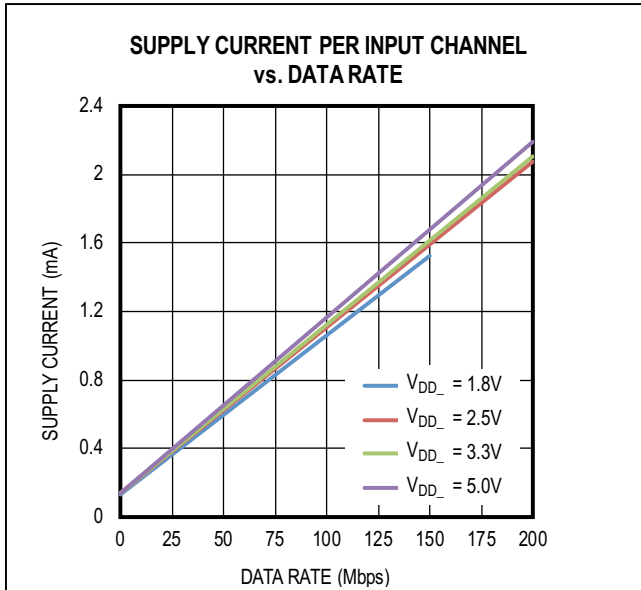
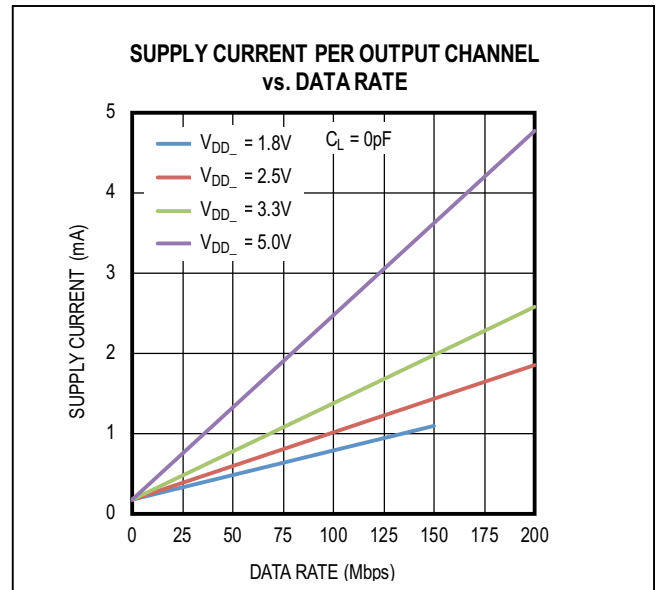

Figure 7. Supply Current Per Input Channel
Figure 8. Supply Current Per Output Channel
The required current for a given supply ( $V_{DDA}$  or  $V_{DDB}$ ) can be estimated by summing the current required for each channel. The supply current for a channel depends on whether the channel is an input or an output, the channel's data rate, and the capacitive or resistive load if it is an output. The typical current for an input or output at any data rate can be estimated from the graphs in Figure 7 and Figure 8. Please note the data in Figure 7 and Figure 8 are extrapolated from the supply current measurements in a typical operating condition.
The total current for a single channel is the sum of the "no load" current (shown in Figure 7 and Figure 8), which is a function of Voltage and Data Rate, and the "load current", which depends on the type of load. Current into a capacitive load is a function of the load capacitance, the switching frequency, and the supply voltage.
- ISDO operating at 3.3V and 10Mbps, consuming 0.24mA, estimated from Figure 7.
- $\overline{FAULT}$  operating at 3.3V and DC, consuming 0.14mA, estimated from Figure 7.
- OAUX operating at 3.3V and 1Mbps, consuming 0.19mA, estimated from Figure 8.  $I_{CL}$  on OAUX for 10pF capacitor at 3.3V is 0.017mA.
- OSDI operating at 3.3V and 10Mbps, consuming 0.30mA, estimated from Figure 8.  $I_{CL}$  on OSDI for 15pF capacitor at 3.3V is 0.25mA.
- OSCLK operating at 3.3V and 20Mbps, consuming 0.42mA, estimated from Figure 8.  $I_{CL}$  on OSCLK for 15pF capacitor at 3.3V is 0.50mA.
- $\overline{OCS}$  operating at 3.3V and 2.5Mbps, consuming 0.21mA, estimated from Figure 8.  $I_{CL}$  on OCS for 15pF capacitor at 3.3V is 0.062mA.
- IAUX operating at 2.5V and 1Mbps, consuming 0.15mA, estimated from Figure 7.
- ISDI operating at 2.5V and 10Mbps, consuming 0.23mA, estimated from Figure 7.
- ISCLK operating at 2.5V and 20Mbps, consuming 0.33mA, estimated from Figure 7.
- $\overline{ICS}$  operating at 2.5V and 2.5Mbps, consuming 0.16mA, estimated from Figure 7.
- OSDO operating at 2.5V and 10Mbps, consuming 0.27mA, estimated from Figure 8.  $I_{CL}$  on OSDO for 15pF capacitor at 2.5V is 0.19mA.
- $\overline{OFAULT}$  operating at 2.5V and 1Mbps, consuming 0.18mA, estimated from Figure 8.  $I_{RL}$  on  $\overline{OFAULT}$  for 10k $\Omega$  resistor at 2.5V is 0.25mA.